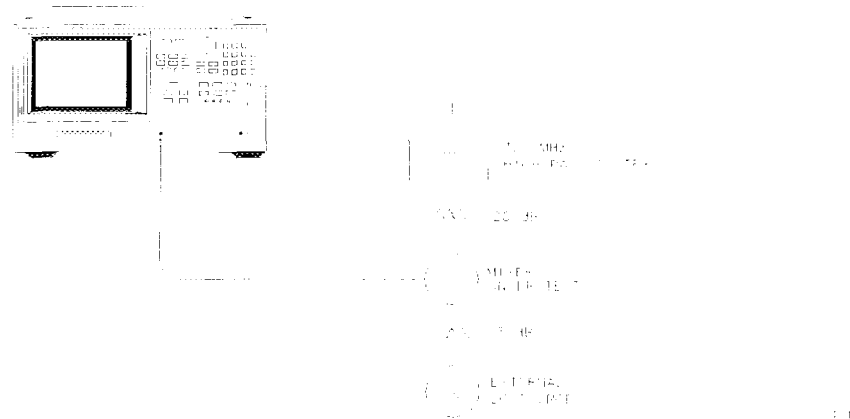

Figure 8-15. Connections for the Second Portion of Conversion Compression Measurement
- 7 Make the connections as shown in Figure 8-15.